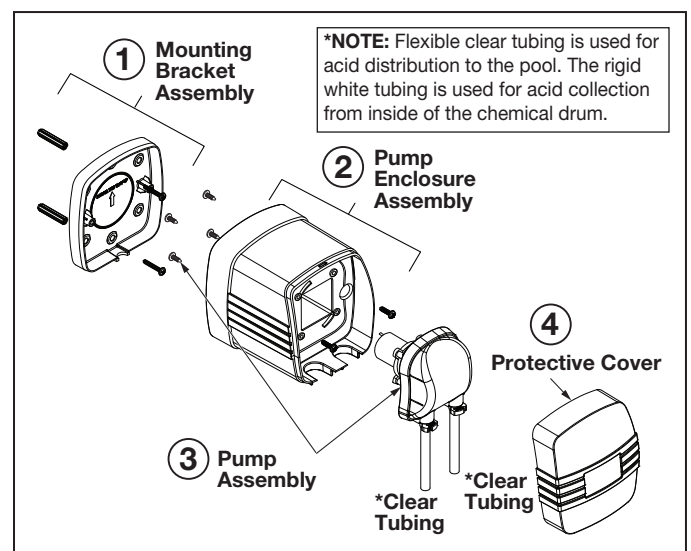

Figure 4. Halo Doser Installation
Unclip the tinted visor from the doser assembly by gently pulling it outwards at its base. Pull enough of the dosing pump cable out of the pump enclosure to reach the Halo Chlorinator and then push the pump enclosure onto the wall mounting bracket (the cable exits the doser assembly at the bottom – take care not to pinch it!). Secure the doser assembly to the mounting bracket using the two (2) mounting screws. See *Figure 4*.